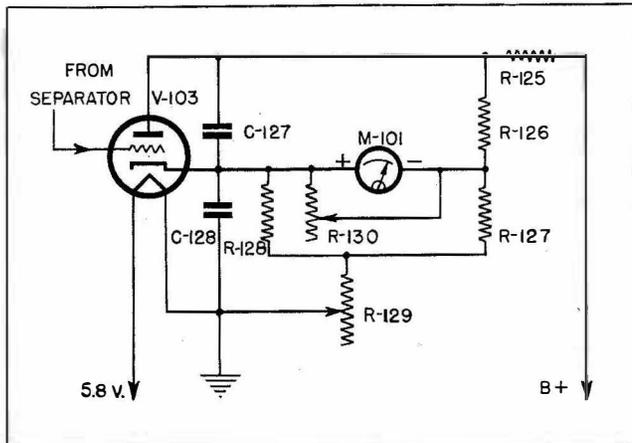

Figure 4-4—Schematic Diagram of the Carrier V-T Voltmeter
1.0 volt is maintained across the input terminals of the Attenuator. The Carrier V-T Voltmeter is connected across the Attenuator input, and the Meter (M-101) shows when the carrier voltage has been adjusted to the required value. Figure 4-4 is the schematic circuit diagram.